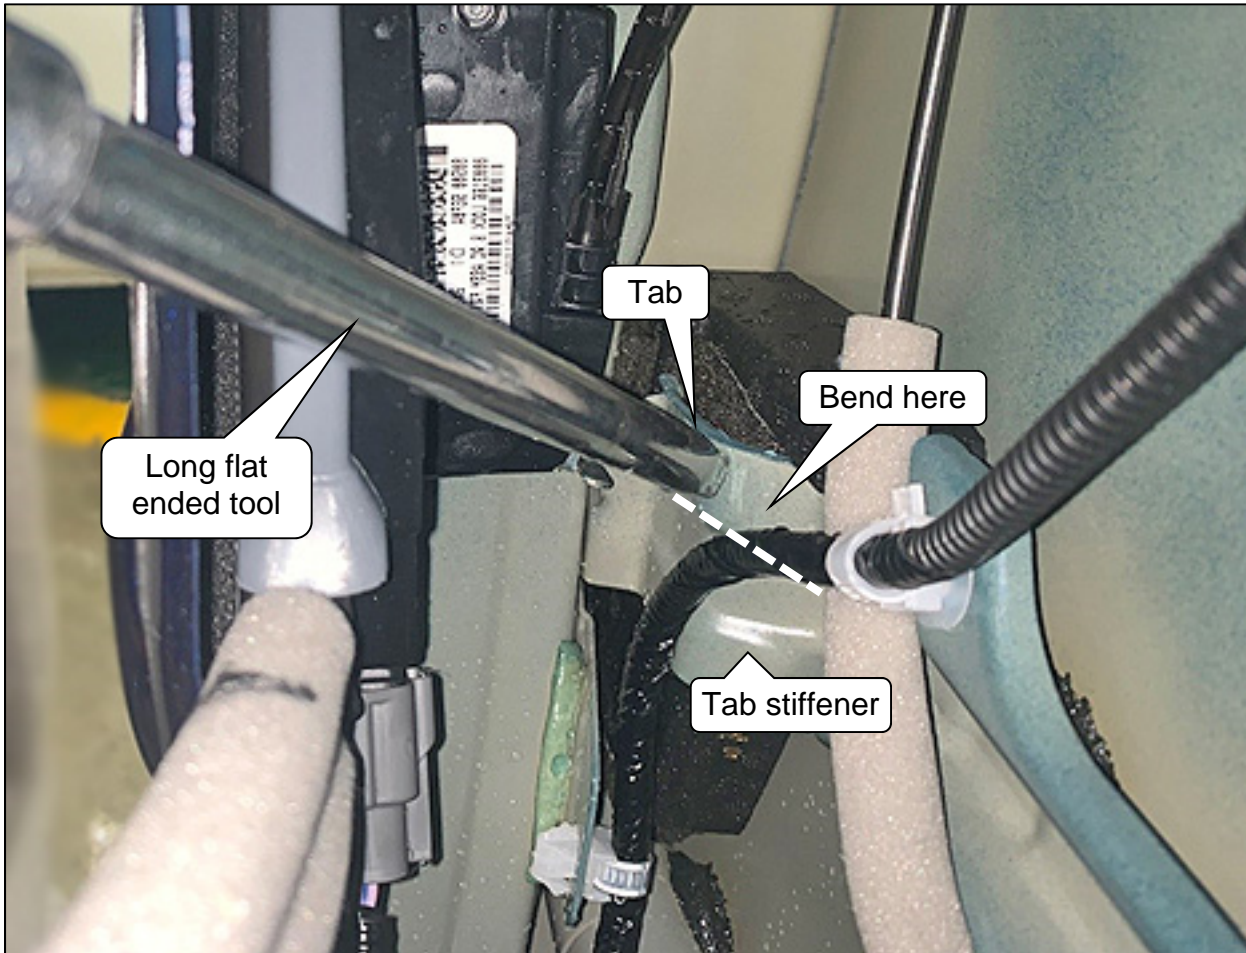

Figure 15
- Using a small hammer and a long flat ended tool, gently adjust the gap by bending the tab stiffener away from latch lever (see Figure 15).